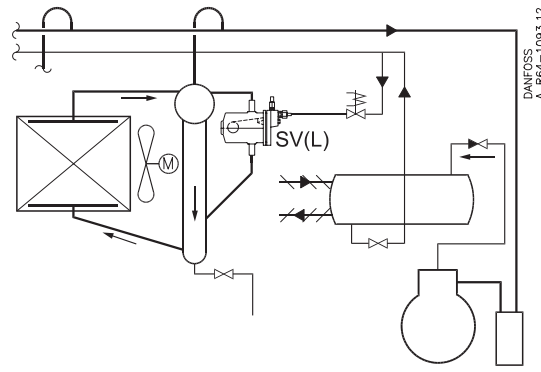

Fig. 3
When SV is to be used as a low pressure float valve it must be fitted with its longitudinal axis horizontal at the same height as the liquid level required (fig. 3).
When an SV(L) is used as a separate expansion valve (fig. 3), the liquid inlet line is connected to nipple C (delivered separately). To avoid false level, the pressure drop in the suction vapour connection must be as small as possible.